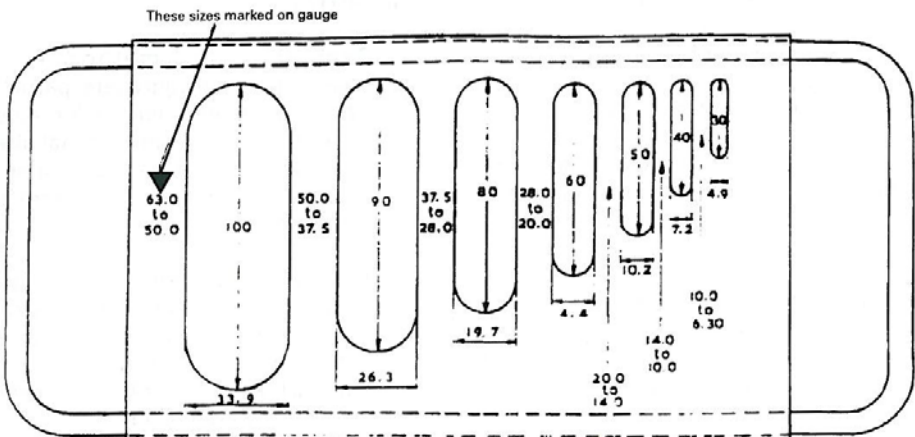

Figure 1— Thickness Gauge (Flakiness Index) indicating sizes of openings.
1. A metal thickness gauge of the pattern shown in Figure 5 or special sieves having elongated apertures. The width of the apertures and the thickness of the sheet used in the gauge or sieve shall be as specified in Figure 1.